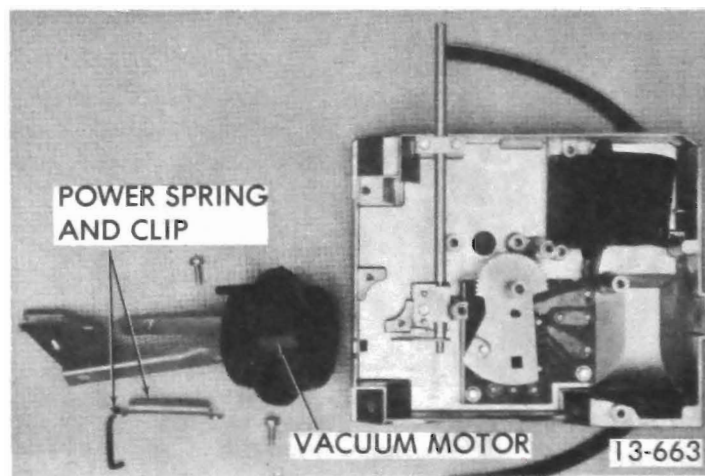

Figure 13-149 Vacuum Motor and Power Spring - Removed
1. Replace vacuum motor mechanism into proper place on mix door operating arm and tighten down retaining screw on the mix door operating arm bracket. See Figure 13-149.